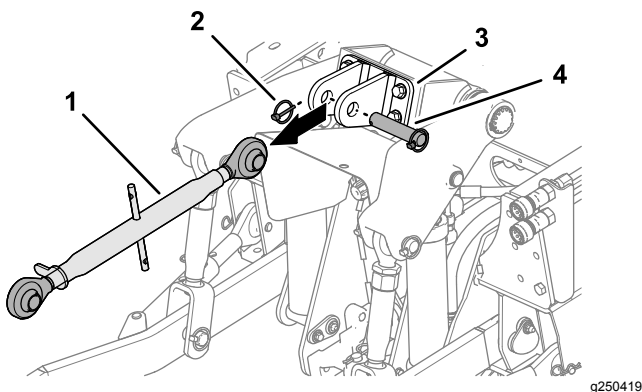

Figure 25
3. If installed, remove the lynch pin, clevis pin, and upper 3-point link from the upper-link bracket (Figure 25).